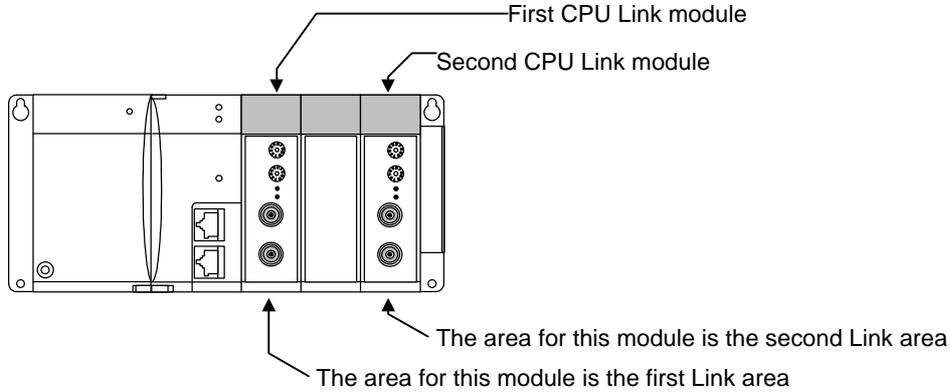

Figure 4.5. Link area identification
An example of a CPU link system configuration is shown in figure 4.5.
In the system configuration shown in figure 4.5, the CPU (A) CPU link module (ST1) is located in the first CPU link position, and link data assignment with CPU (A) is carried out within the first CPU link area. In addition to this, link data assignment for the CPU (B) link module (ST2) is also carried out in the first link area when viewed from CPU (A).